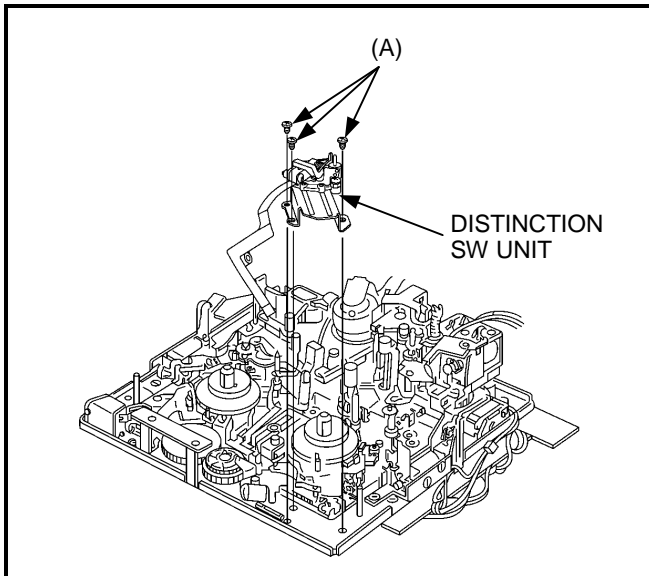

Fig. 6-19-1 Removal of Distinction Switch Uni
6. Unscrew the 3 screws (A) and remove the Distinction SW Unit as shown in Figure 6-19-1.
4. Unscrew the 2 screws (A) and remove the Reel Drive Sensor P.C.Board as shown in Figure 6-19-1.